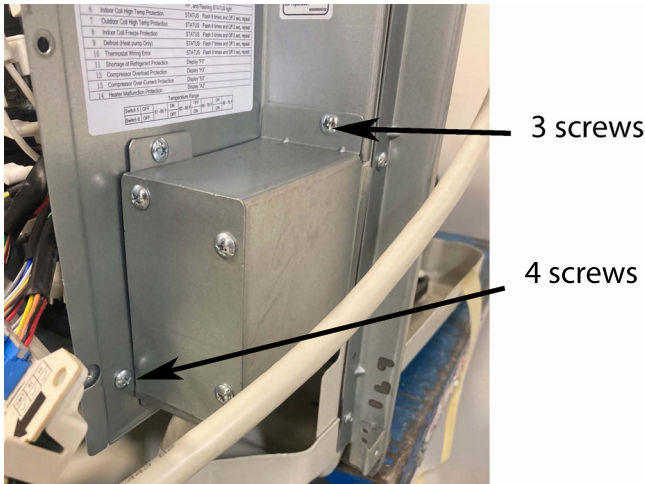

Figure 510
5. Remove Power Cord Connector cover (3 screws.) See figure 510.
6. Remove right side access panel (4 screws, see figure 510.)
5. Remove Power Cord Connector cover (3 screws.) See Figure 510).
6. Remove right side access panel (4 screws.) See figure 510.